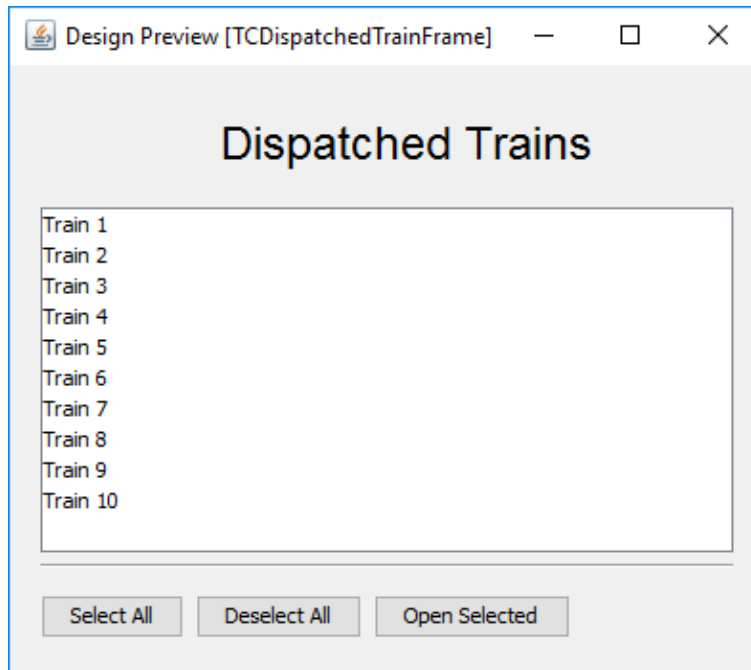

Figure 2: User Interface for the dispatched trains.
- Dispatched Trains - Opens a window (Figure 2) with a list of all dispatched trains. The user can select multiple trains by holding down SHIFT on the keyboard. Clicking on the Open Selected button will open a Train Controller for each of the selected trains.